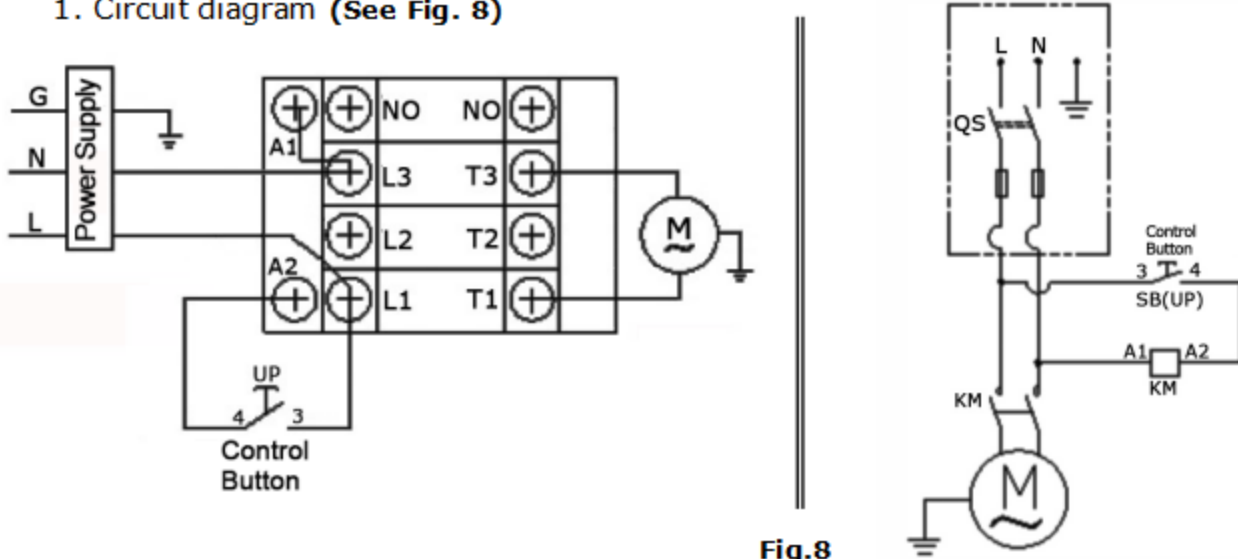

Fig.8
1. Circuit diagram (See Fig. 8)